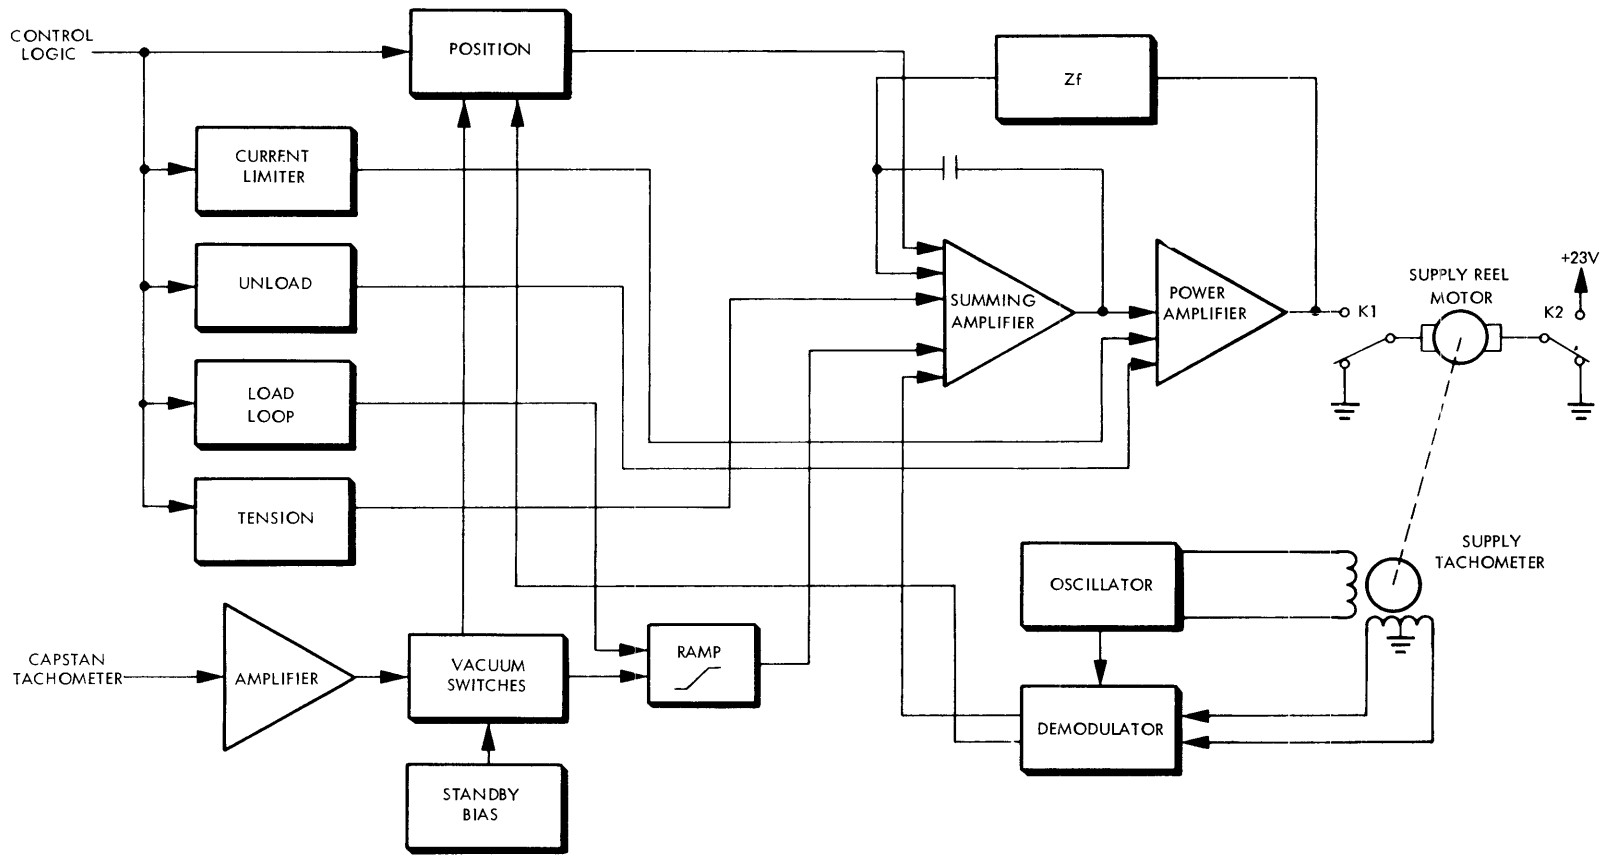
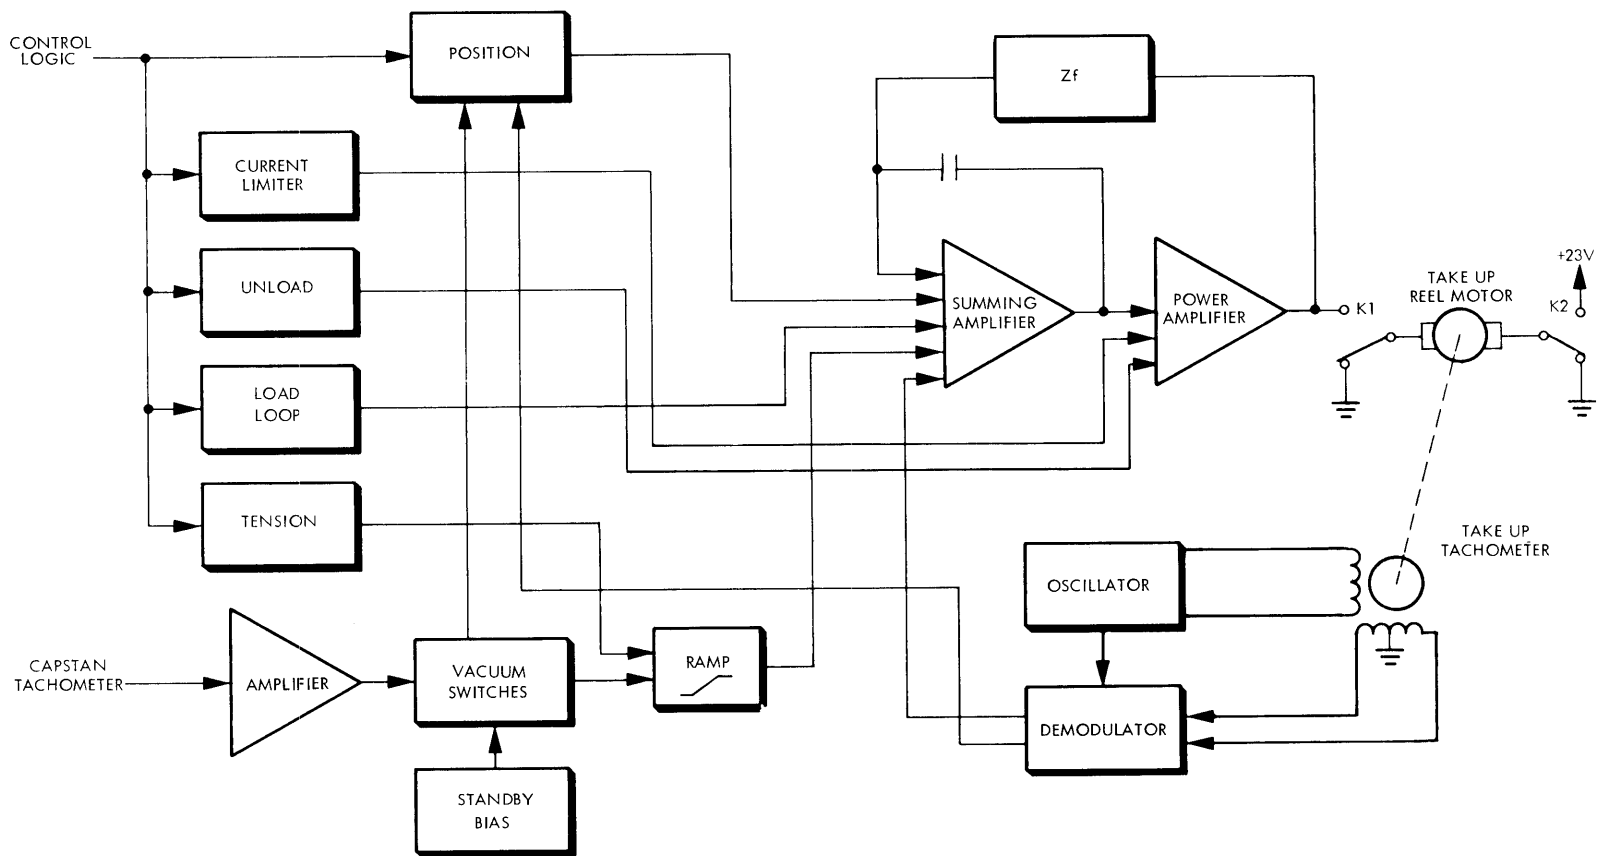

Figure 4-5. Supply Reel Servo Block Diagram
Figure 4-6. Take-up Reel Servo Block Diagram
The functional blocks of the supply reel servo and the take-up reel servo are shown in Figures 4-5 and 4-6, respectively. Both supply and take-up operation of the servos are basically the same except that auxiliary inputs such as Load Loop and Tension are injected at different points.
Referring to Figures 4-5 and 4-6 it can be seen that the Capstan Tachometer provides a reference input to each reel servo. The Vacuum Switches initiate an input signal to the Ramp Generator. The output of the Ramp Generator is supplied to the Summing Amplifier whose output controls the Power Amplifier and subsequently the Reel Motor.
Auxiliary circuitry is provided to accomplish loading tape into the vacuum chamber. This circuitry receives its commands directly from the Control Logic. The functional blocks used for loading are the Current Limiter, Unload, Load Loop, and Tension, shown in Figures 4-5 and 4-6.
- (1) When the LOAD/RESET control is depressed, a Tension (NTNA) signal is received from the control logic and is converted to the appropriate signal level by the Tension circuitry.
- (2) The Tension signal to the supply servo (Figure 4-5) provides a constant current input to the Summing Amplifier.
- (3) The Tension signal to the take-up servo (Figure 4-6) provides a constant current to the Ramp circuitry which, in turn, provides a constant current to the Summing Amplifier.
- (4) Concurrent with the Tension signal, the Current Limit (CURLIM) signal is supplied to the Power Amplifier. This signal prevents saturation of the Power Amplifier from the application of the constant current into the Summing Amplifier.
- (5) The current into the two summing amplifiers (supply reel and take-up reel) provides positive tape tension by driving the supply and take-up reels in opposite directions.
- (6) A few seconds after the tape is tensioned the Load Loop circuitry is activated.
- (7) The Load Loop (NLDLOOP) signal injects a constant current into the Ramp generator and hence the Summing Amplifier on the supply reel servo (Figure 4-5) and also directly into the Summing Amplifier on the take-up reel servo (Figure 4-6).
- (8) The current supplied to the Summing Amplifiers causes a voltage inversion in the Power Amplifiers which forces the reel motors to reverse, and simultaneously load, tape into the vacuum chambers. The Tension signal is removed when Load Loop is applied.
- (9) The Load Loop and Current Limit signals are removed when vacuum interlock is accomplished.
The same auxiliary circuits employed to load tape into the vacuum chambers are used during an unload operation. Refer to Figures 4-5 and 4-6.
To stabilize the tape loop in the vacuum column during standby operation (i. e., capstan stationary) an auxiliary circuit is used in the reel servos. This circuitry is represented by the Position block in Figures 4-5 and 4-6. The position control circuitry senses tape position information from the tachometers and vacuum switches when there is no capstan motion. The Demodulators recognize the tachometer positional information and produce a current nulling effect at the Summing Amplifiers.
An 800-Hz oscillator, shown in Figures 4-5 and 4-6, provides the ac reference signal to the reel tachometer field windings. When the tachometer is rotating, an 800-Hz secondary signal is produced from the tachometer which is amplitude modulated according to the speed of the tachometer. A quadrature phase detector circuit is used to sense this amplitude variation. Use of this circuit alleviates the offset problem associated with bi-directional speed detection. Normal amplitude modulation detection would detect out-of-phase, as well as in-phase, signals leading to zero crossover distortion. The velocity signal from the quadrature phase detector is not rectified but the low bandwidth of the reel servo limits the frequency response and reacts to the averaged amplitude information. Amplitude modulation rectification is used, however, to detect positional information from the tachometer.